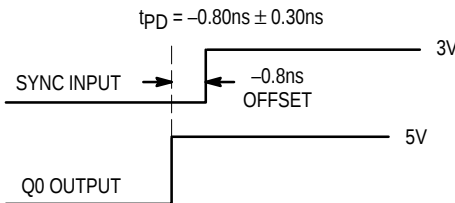

Figure 2. Depiction of the Fixed SYNC to Q0 Offset (t_{pD}) Which Is Present When a 1MΩ Resistor Is Tied to V_{CC} or Ground
2. A 1MΩ resistor tied to either Analog V_{CC} or Analog GND, as shown in Figure 2, is required to ensure no jitter is present on the MC88920 outputs. This technique causes a phase offset between the SYNC input and the Q0 output, measured at the pins. The t_{pD} spec describes how this offset varies with process, temperature, and voltage. The specs were arrived at by measuring the phase relationship for the 14 lots described in note 1 while the part was in phase-locked operation. The actual measurements were made with a 10MHz SYNC input (1.0ns edge rate from 0.8V to 2.0V). The phase measurements were made at 1.5V. See Figure 2 for a graphical description.